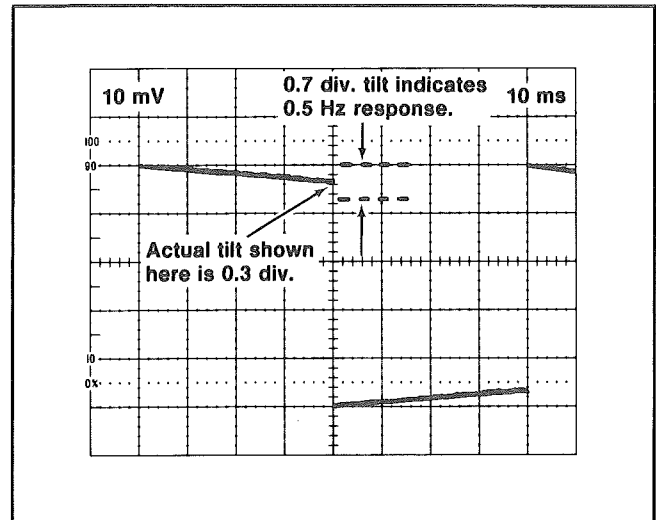

Fig. 4-2. Typical response of the CT-5 with A6302/AM503 to a low-frequency square wave. A tilt of 0.7 division indicates a -3 dB response of 0.5 Hz.
g. Measure the tilt of the positive half-cycle. The tilt should be 0.7 division or less, indicating a low-frequency response of 0.5 Hz or lower (see Fig. 4-2).